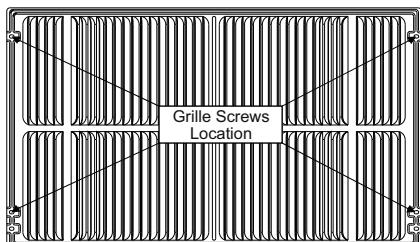
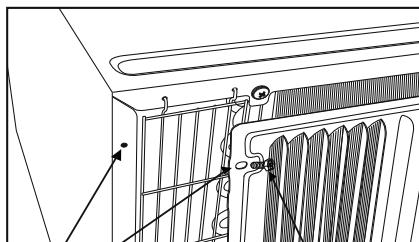

Fig. 2
Fig. 3
4. If the unit has not been predrilled (some models), carefully drill 4 – 1/8" holes through the grille and into the side flange of the unit approximately 1 1/2" to 2 " from the top and bottom as in Fig. 2 & Fig. 3.